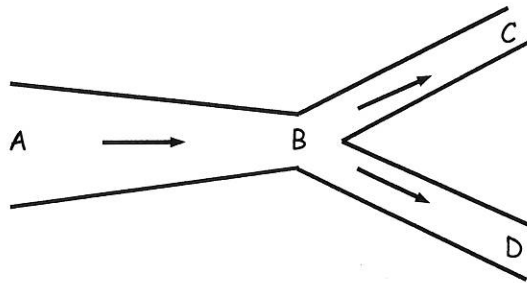

Figure Q3(a)
- a) Water flows through a pipe AB as shown on **Figure Q3(a)**, with a diameter of 40cm at A and 25cm at B. At B the pipe is split into two which the diameter BC and BD are both 15 cm and 10 cm. Calculate: